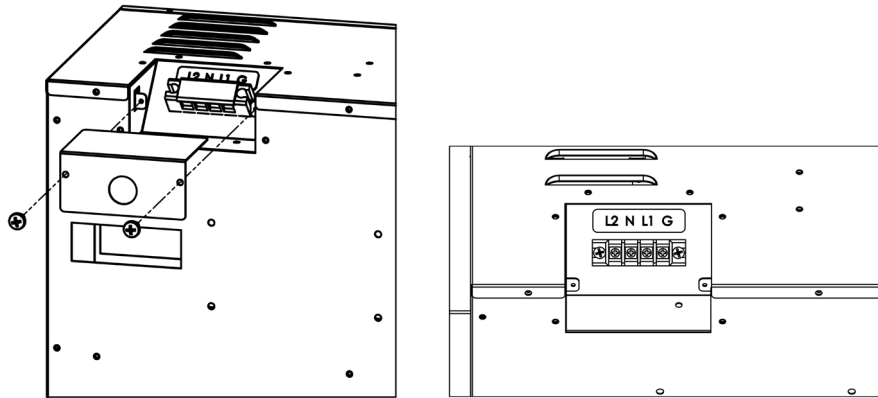

Fig. 5-1
- Remove the 2 securing screws from the junction box cover plate, located on the top left-hand, back- side of the appliance (Fig. 5-1).
Only 3 terminals will be used in the appliance junction box (Fig 5-1): white (neutral), black (power L1), and green/bare (ground) that are connected to 120V power source (circuit breaker panel).